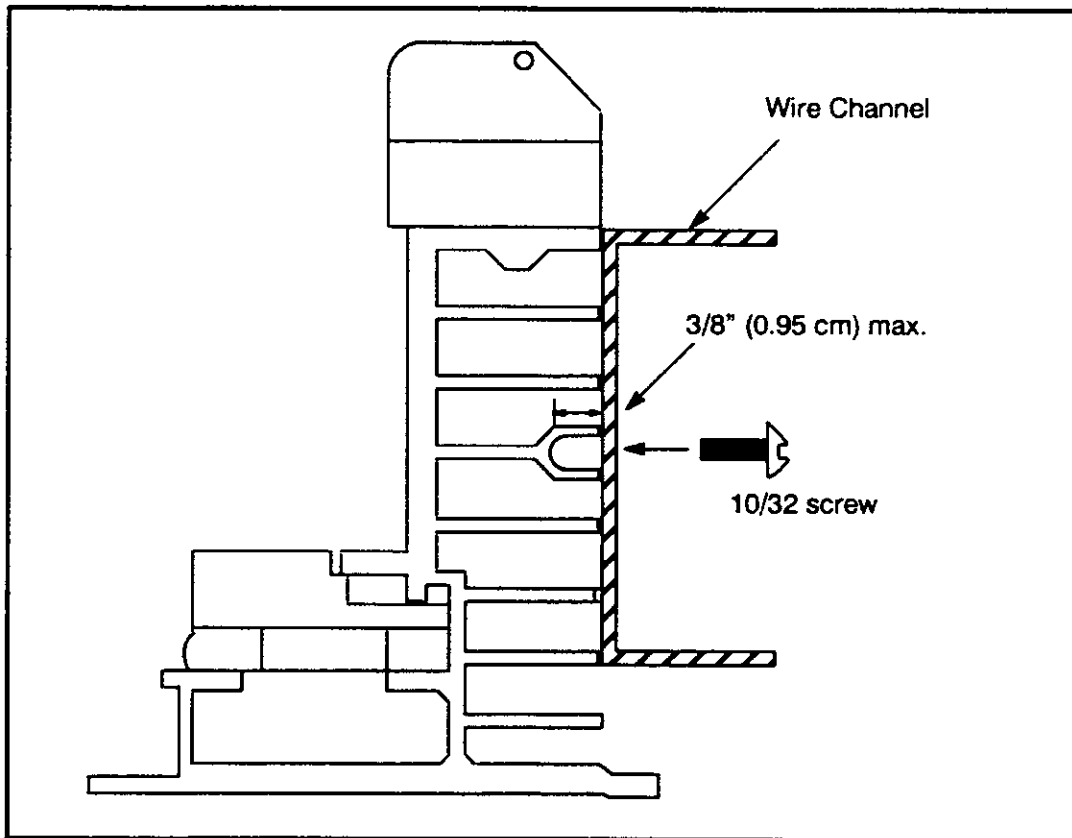

Figure 2.10 - Rail Cabling Channel
The rail has a threaded groove on one of the cooling fins. You use this threaded groove to attach a wire channel or tray to the side of the rail, if needed. You can use number 10-32 screws which are 3/8 of an inch long to fasten the wire channel to the rail at any point along the cooling fin as shown in figure 2.10. There are four holes in the rail's backplate for mounting it in an enclosure or cabinet. See section 2.3 for installation instructions.
This channel provides a housing for the field wiring connected to the rail's terminal strip. Figure 2.10 shows the wire channel fastened to the rail. The rail has a threaded groove on one of the cooling fins which accepts 10-32 screws that are 3/8 of an inch long. Screws are provided with each kit to mount the four channel sections. The wire channel measures 9.0 inches (22.9 cm) (H) x 4.0 inches (10.2 cm) (W) x 1.5 inches (3.8 cm) (D).